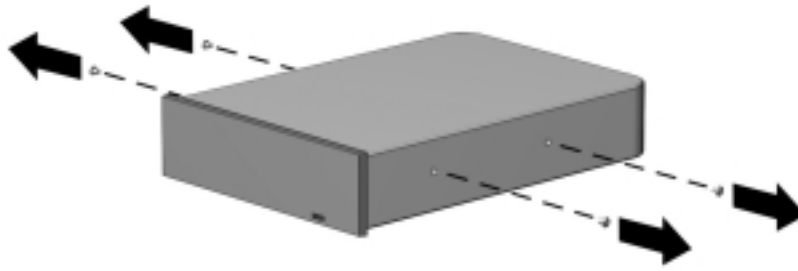

Figure 5-16. Removing the Half-Height Drive Screws
9. If installed, remove the screws from the half-height drive to be installed (Figure 5-16).